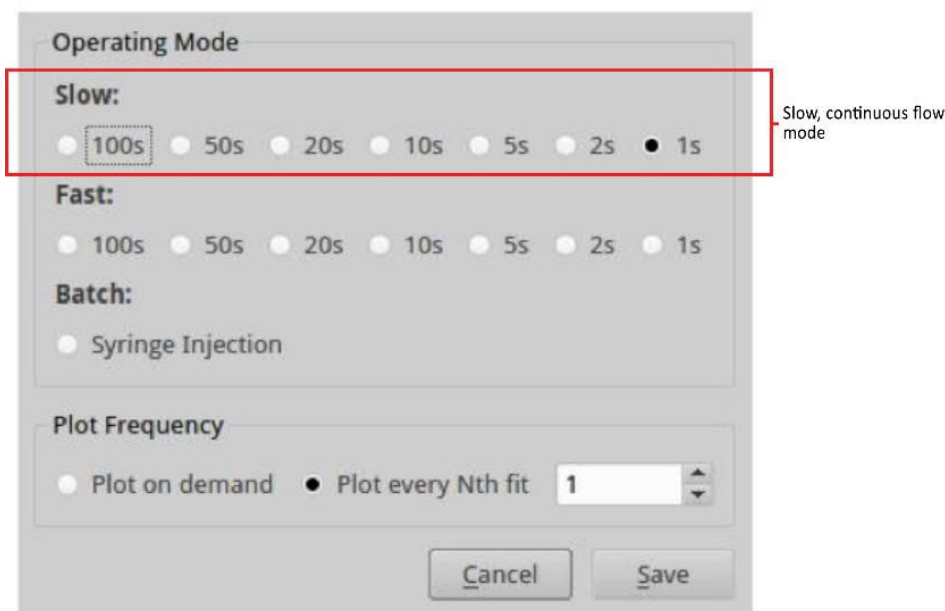

Figure 115: Rate Control Screen set to Slow Flow Mode
2. The Operating Mode pop-up menu displays. (Figure 115)
3. Set the analyzer to *Slow* (Continuous Flow) mode by selecting one of the radio buttons under the *Slow* option. (Figure 115)